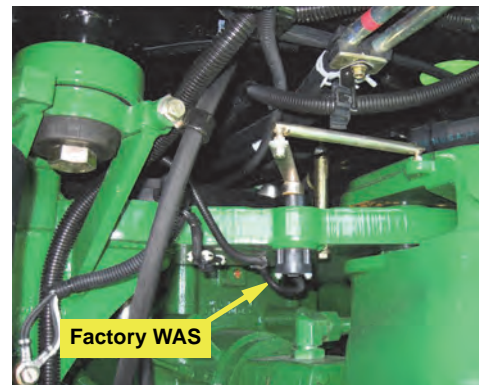

Figure 2c: Factory-installed WAS
- d. Locate the factory-installed WAS on the top left hand side of the articulation point (Figure 2c).